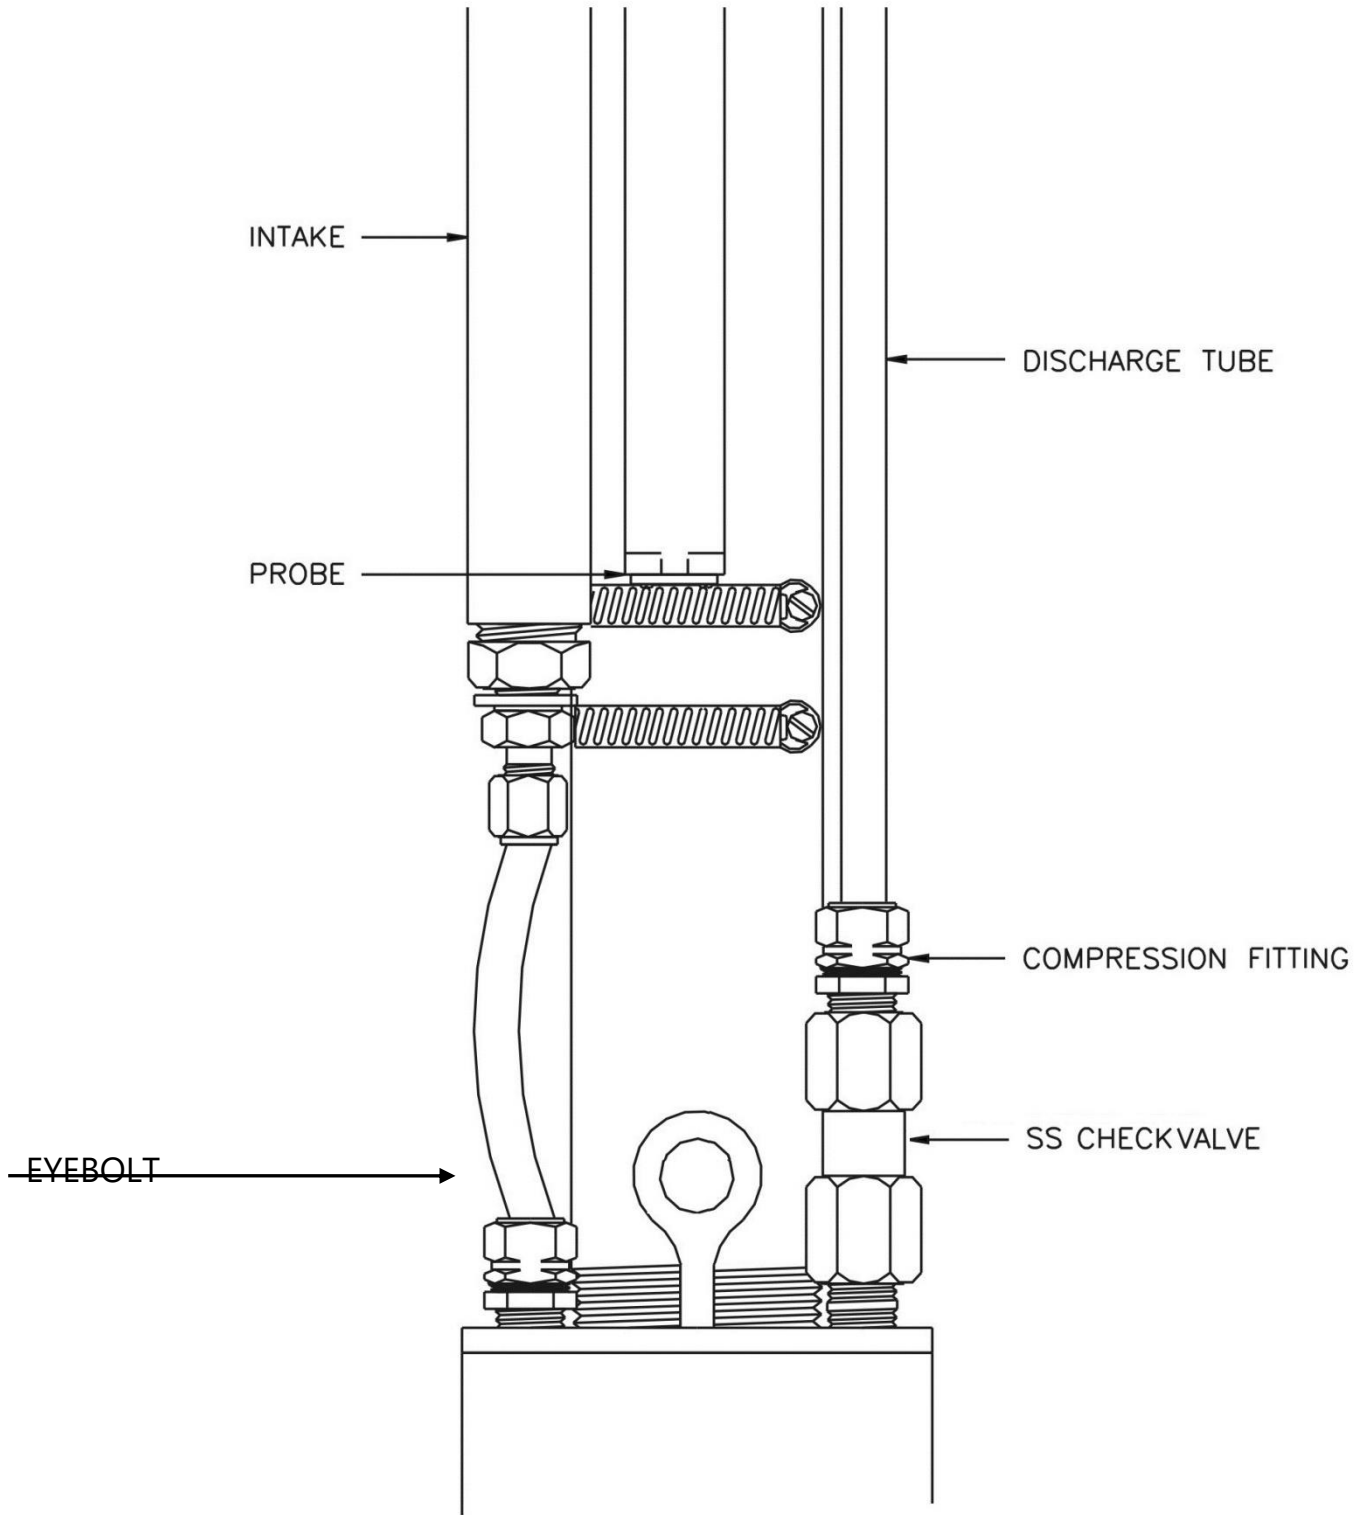

Figure 2-8: Location of Discharge Hose
1. Attach one end of the 3/8" nylon product hose to the compression fitting on the check valve (see Figure 2-8.)